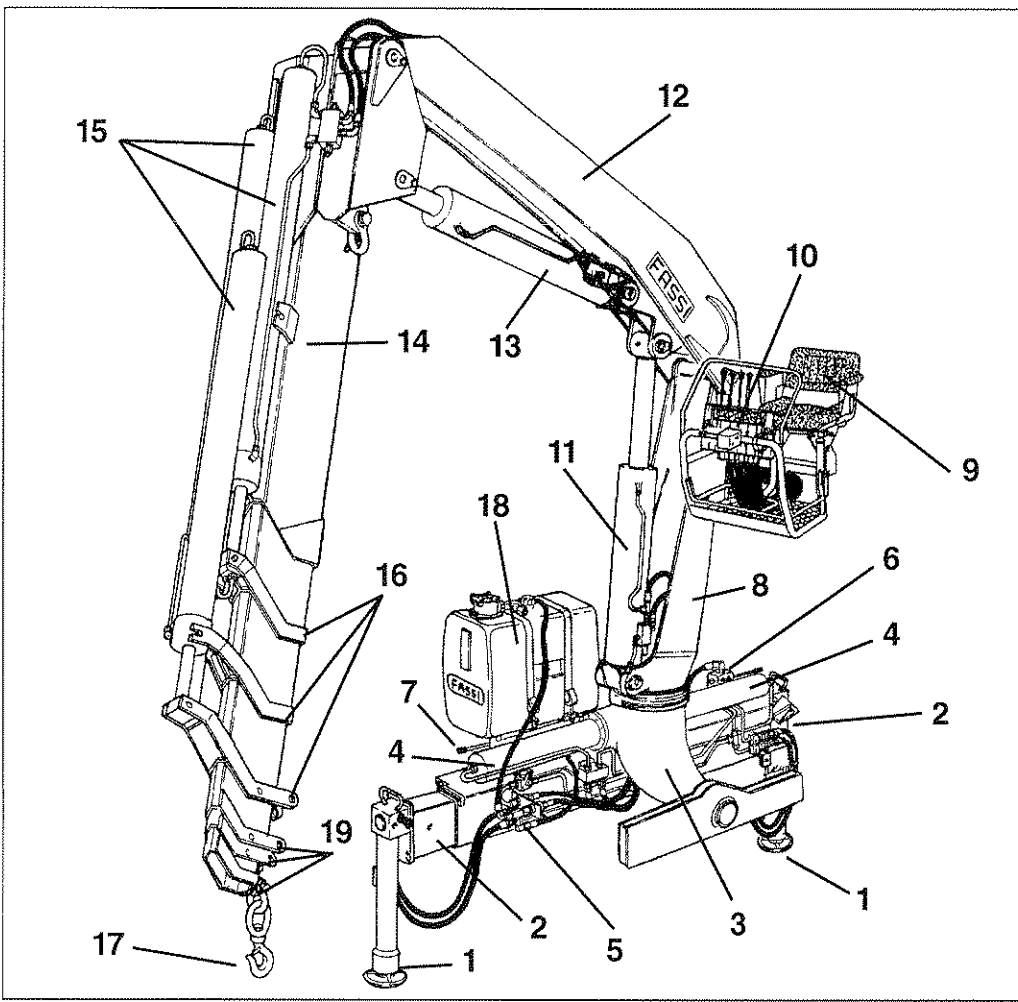

fig. 4
- Version with ground controls for outriggers and top seat controls for crane (distributor) (fig. 4)